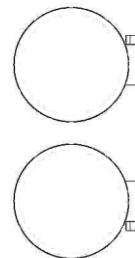

FIGURE 3
6. Slide the rear headpipe/muffler assembly onto front headpipe and mate rear headpipe with rear exhaust port of engine, secure with stock acorn nuts but **DO NOT TIGHTEN AT THIS TIME**. Align muffler with mounting holes in the exhaust mounting bracket and insert the (2) supplied 5/16" x 5/8" flange bolts but **DO NOT TIGHTEN AT THIS TIME**.
8. On the front and rear heatshields, unscrew the remaining hose clamps and feed the tail end of the clamp through the clips on the inside. The larger clamps are to be placed at the rear of the heatshield so they clamp over the muffler assembly. The screw end of the hose clamps should be accessible for tightening but not visible when the heatshields are mounted to the pipes. See Figure 3.